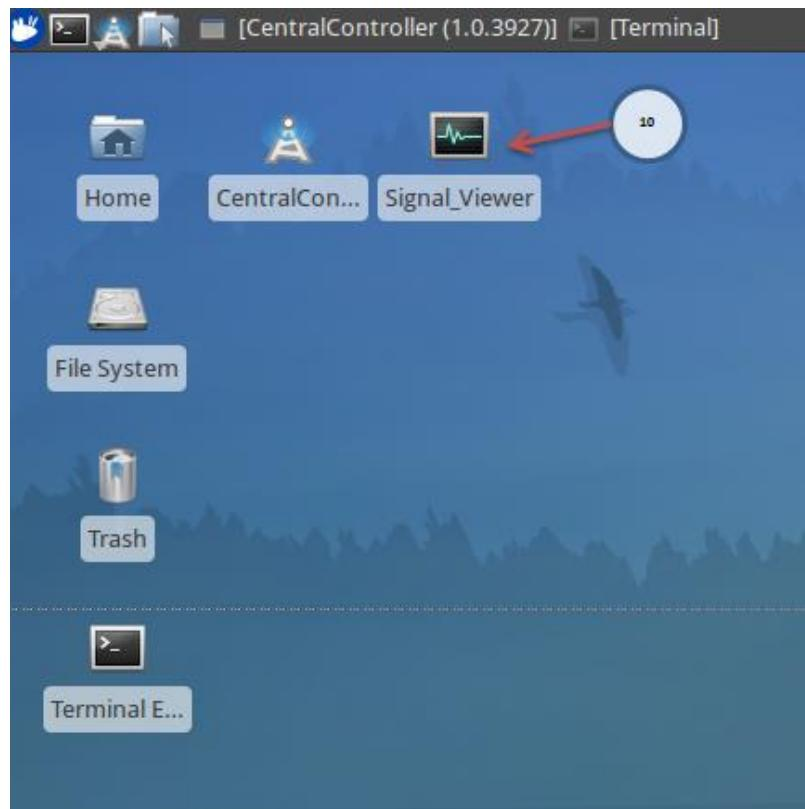
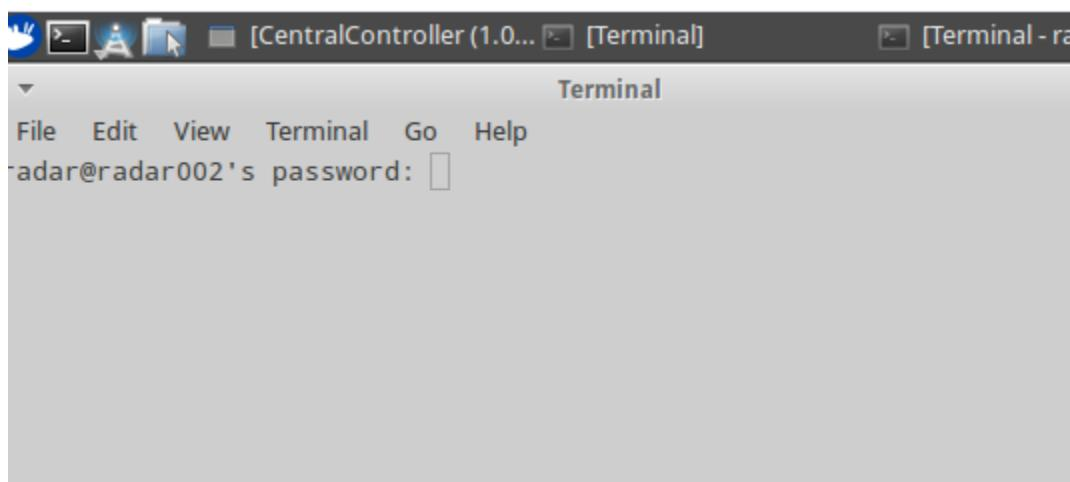

Figure 12a. Clicking the Signal_Viewer icon starts the Signal Viewer.
Figure 12b. Log-in terminal for the Signal Viewer.
11. Optional Signal Viewer Application. Once the Radar Processor application has launched, it is possible to view the microwave pulse waveforms from the Radar. This is done by double-clicking the “**“Signal_Viewer”** icon on the Central Controller desktop screen as indicated by Icon 10 in Figure 12a and entering the password *radar* in the pop-up terminal as shown in Figure 12b.